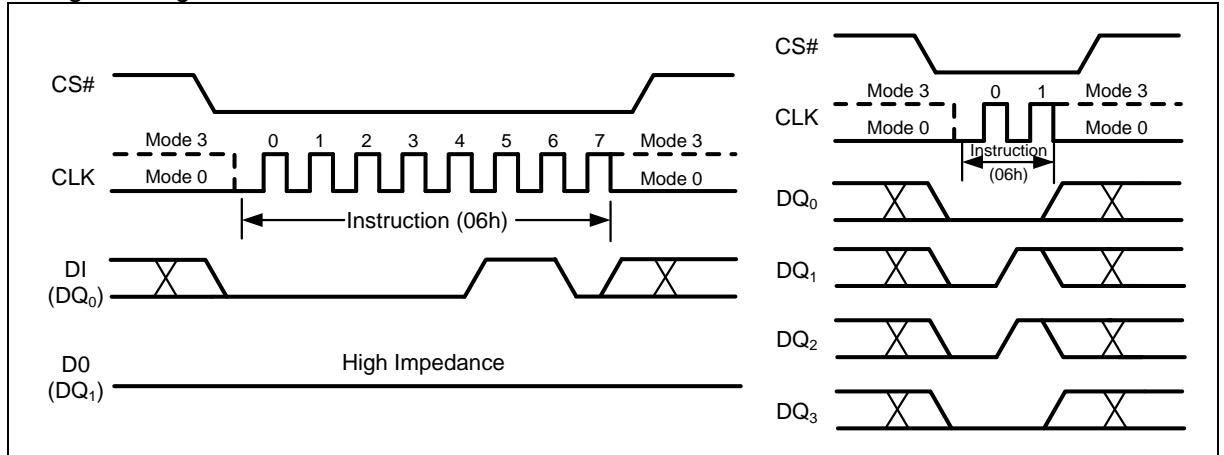

Figure 13 Write Enable Command for SPI Mode (left) or QPI Mode (right)
The Write Enable (WREN) command (Figure 13) sets the Write Enable Latch (WEL) bit in the Status Register to a 1. The WEL bit must be set prior to every Page Program, Quad Page Program, Sector Erase, Block Erase, Chip Erase, Write Status Register and Erase/Program Security Sectors command. The Write Enable (WREN) command is entered by driving CS# low, shifting the command code “06h” into the Data Input (DI) pin on the rising edge of CLK, and then driving CS# high.